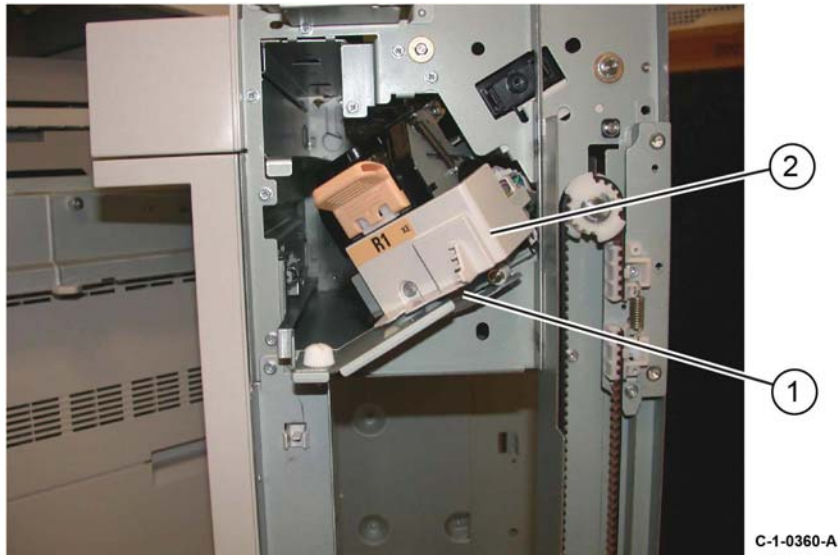

Figure 1 Stapler cover removal
3. Remove the stapler cover, Figure 1:
- a. Remove the screw (1).
- b. Remove the stapler cover (2).